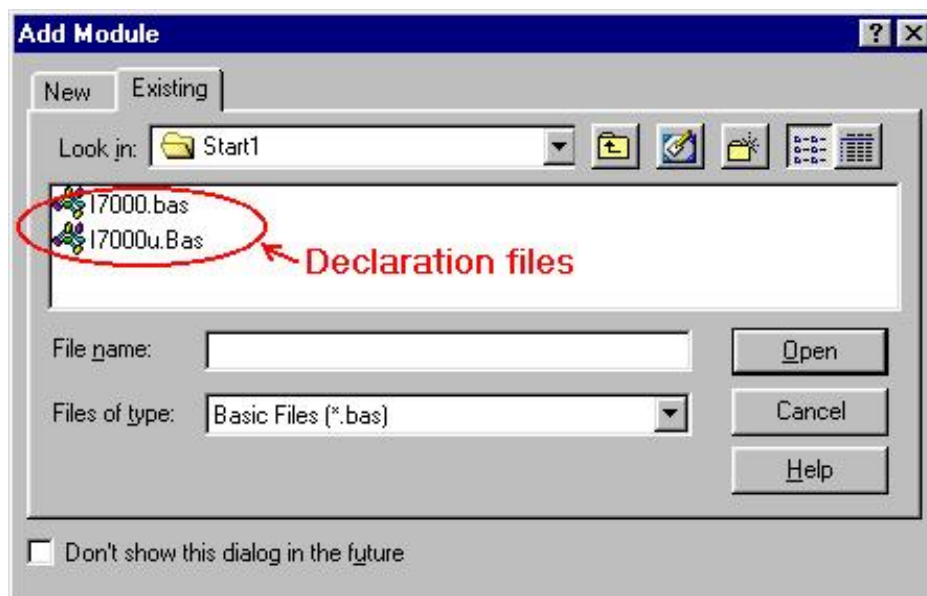

Figure 3-1-7. Adding the declaration files
- After the “Add Module” window pops up, select the tab page “Existing” and change to the folder that contains the user’s project files. Then add these declaration files. Refer to Figure 3-1-7.